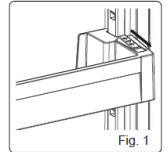

Fig. 1
- Hold the bottom of the door rack and pull the tabs on the side of the door rack, in the direction of the arrow. (Fig.1)